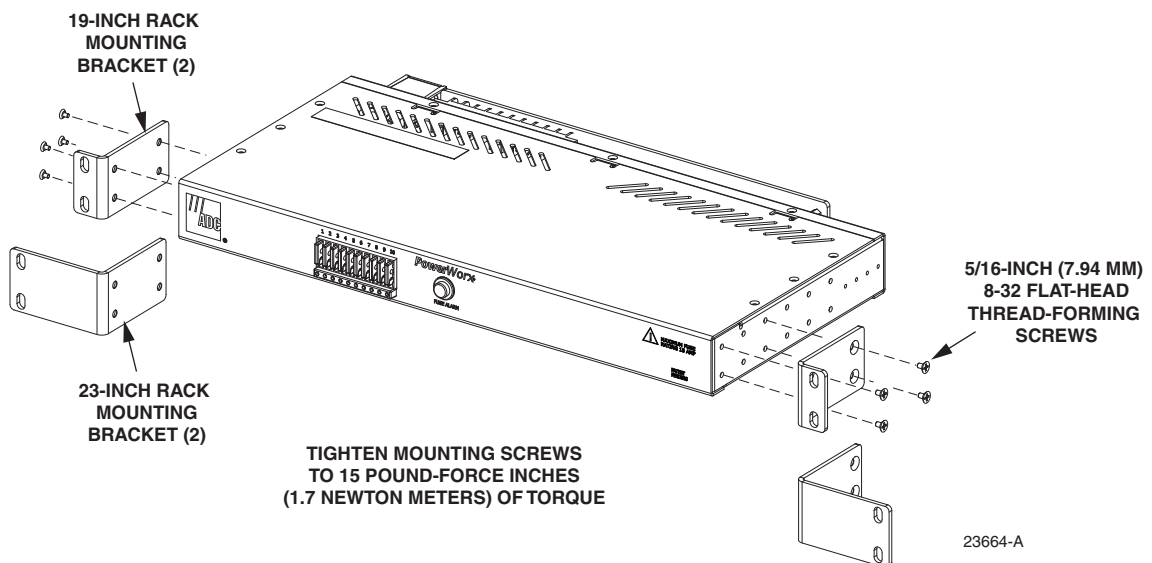

Figure 13. Selecting and Orienting Specific Width Brackets
4. If the mounting brackets are the specific width type, select the 19-inch or 23-inch brackets, and orient and attach the mounting bracket on the panel referring to Figure 13.